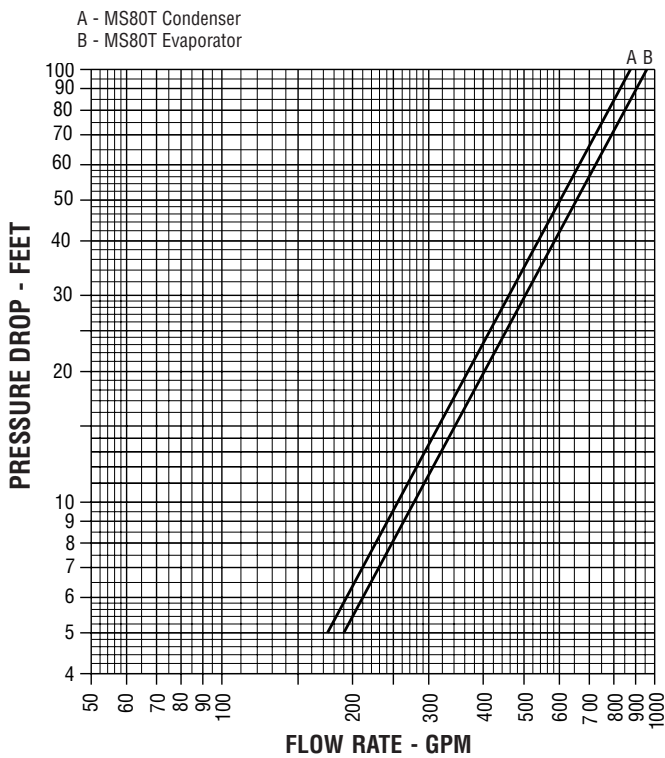

Figure 2. Water Pressure Drop
Evaporator and condenser waterside pressure drops are provided in Figure 2. To use Figure 2, divide the total water GPM by the number of modules in the chiller.
6. With a six-module chiller, evaporator and condenser pressure drops are read from Figure 2 as follows:
6. Condenser pressure drops are read from Figure 2 as follows: